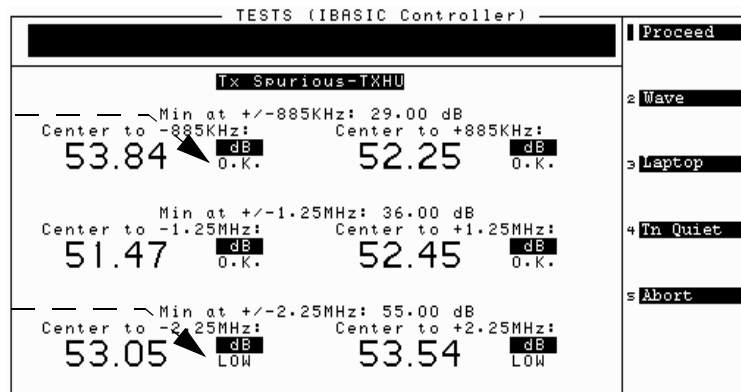

Figure 34 Power Meter Screen for TX Spurious - TXHU Measurement
1. If you set the Use Power Meter Screen When parameter to None or if you press k1 (Proceed) on the power meter screen (see figure 34 on page 101), the Test Set will show the test result table on the display when the testing is complete. If the measurement's results fall outside the specified limits, the measurement will fail. A failure is indicated by an F in the P/F column.